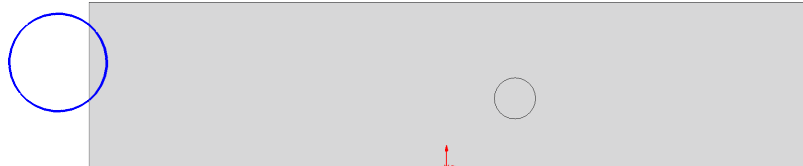

Fig. 44
Step 3. Click **Circle**  (S) on the Sketch toolbar.
Step 4. Sketch circle to the left of front edge, **Fig. 44**.
Step 5. Click **Smart Dimension**  (S) on the Sketch toolbar.